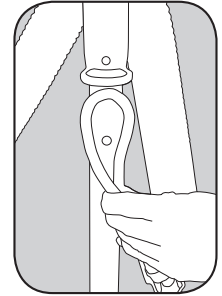

Fig. 3
- Create a loop in the power cord, and push it through the slot and over the hook of the cord retainer (Fig. 3).